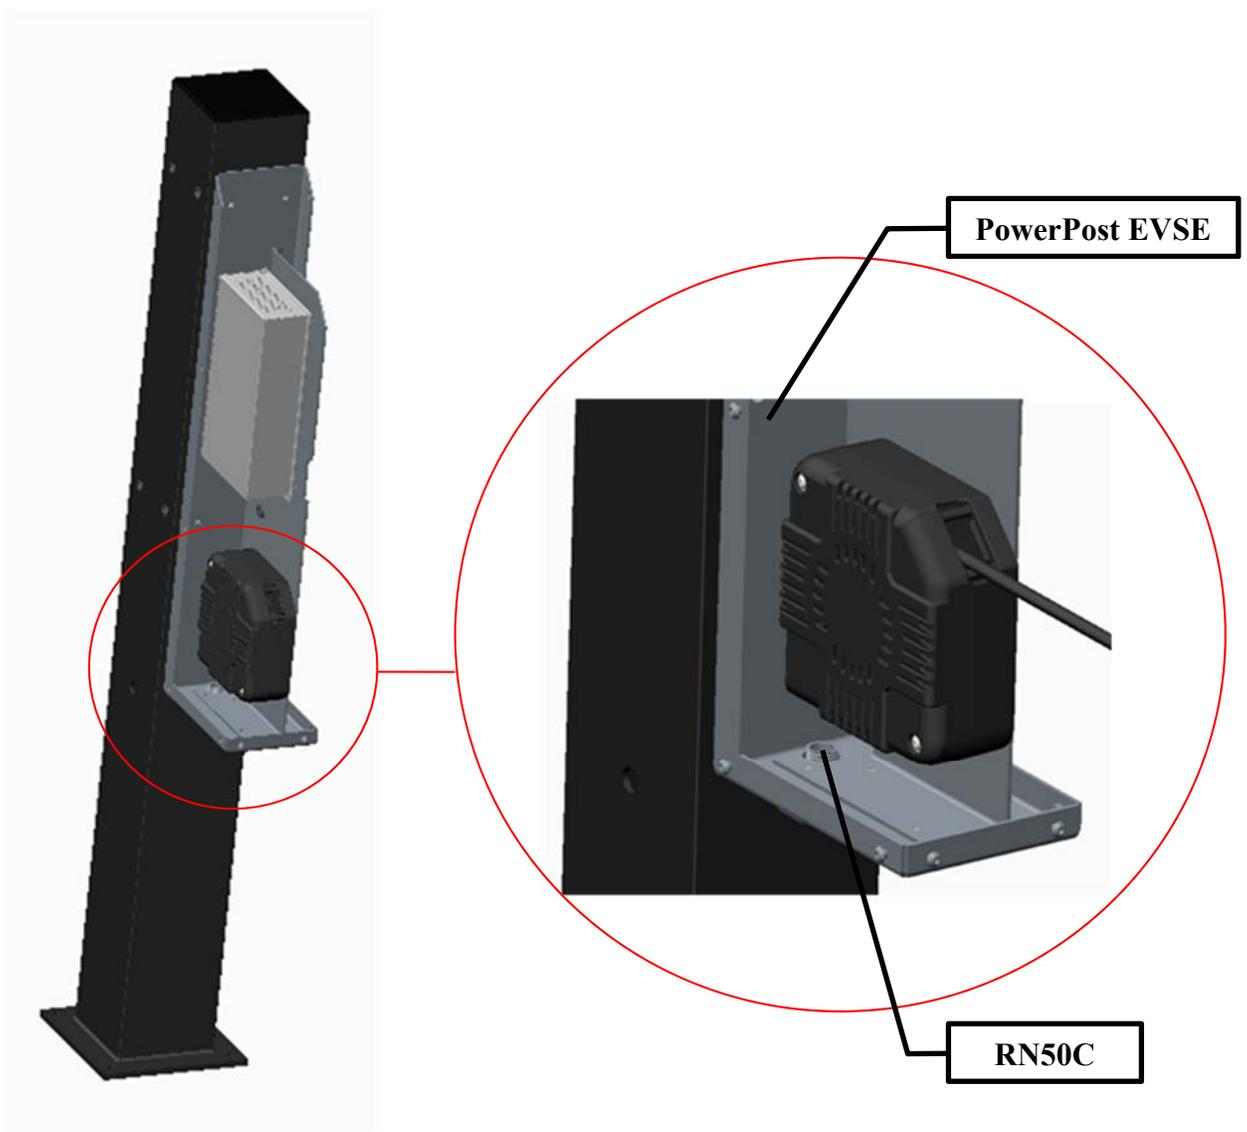

Figure 11: Installation of PowerPost EVSE onto Conduit
- H. Install PowerPost EVSE onto ½" Conduit Nipple RN50C. Ensure that Reducing Washer RW-7550 is still in place. See Figure 11.